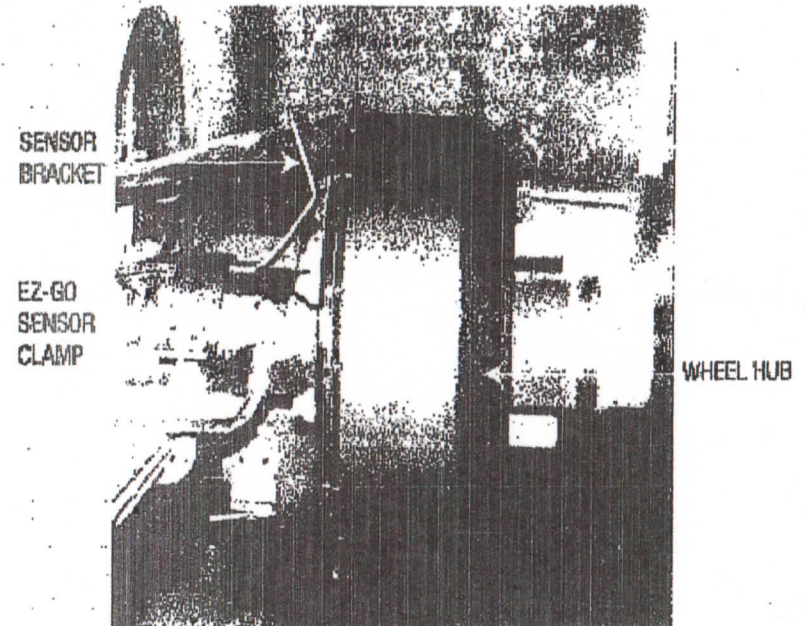

Figure 4.
**NOTICE:** EZ-GO does not use the hose clamp to secure the sensor bracket. Use the sensor clamp and the two 3/8 inch nuts which thread onto the axle studs, to secure the sensor bracket. Use the same orientation as noted in step 8, Part 3. (See Figure 4.)